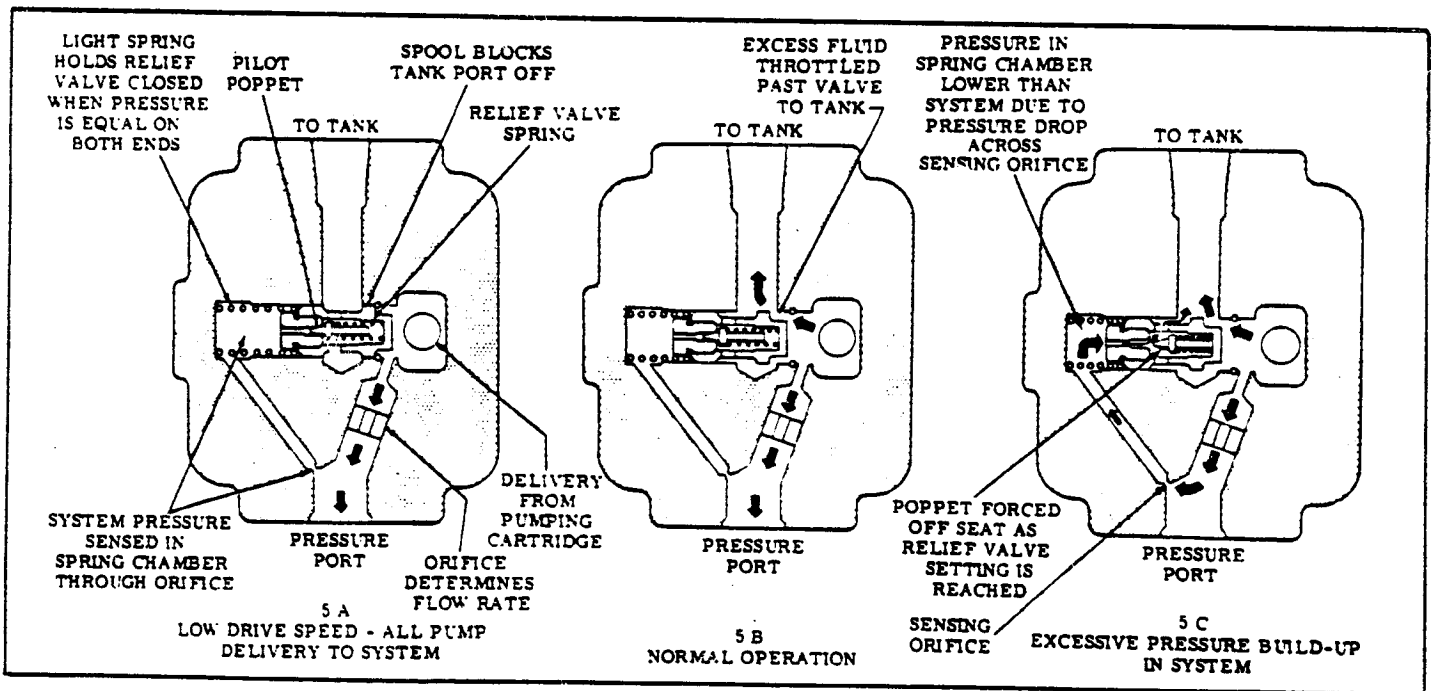

Figure 5
1. Maximum flow to the operating circuit and maximum system pressure are determined by the integral flow control and relief valve in a special outlet cover used on some V10 and V20 pumps. This feature is illustrated pictorially in Figure 5. An orifice in the